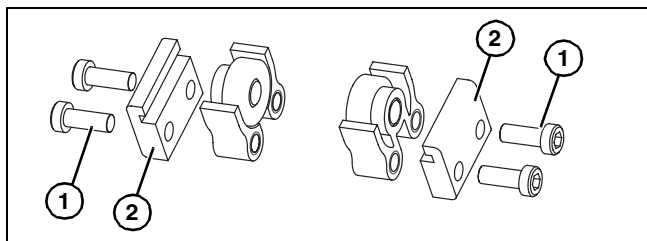
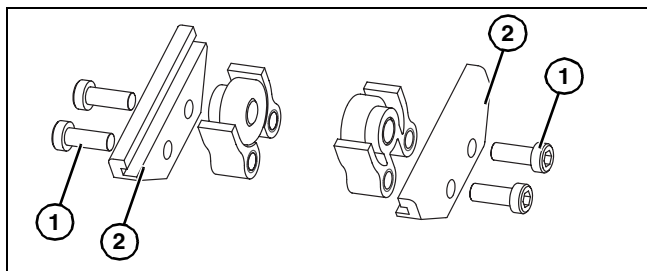

Figure 12
Figure 13
- Locate return rollers. Exploded views shown in Figure 12 & Figure 13.
- Remove screws (**Figure 12, item 1**) & (**Figure 12, item 1**) and clips (**Figure 12, item 2**) from roller assembly.